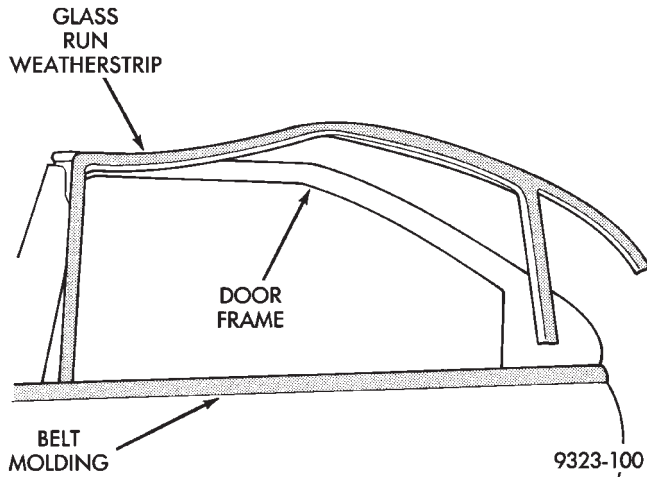

Fig. 32 Door Glass Run Weatherstrip
- (1) Remove door glass.
- (2) Remove upper door trim retainer channel.
- (3) Remove side view mirror.
- (4) Pull weatherstrip from lower rear channel above door latch.
- (5) Remove screws holding applique to window frame.
- (6) Separate applique from door.
- (7) Disengage push-in fastener holding run weatherstrip to window frame.
- (8) Pull run weatherstrip from window frame channel (Fig. 32).